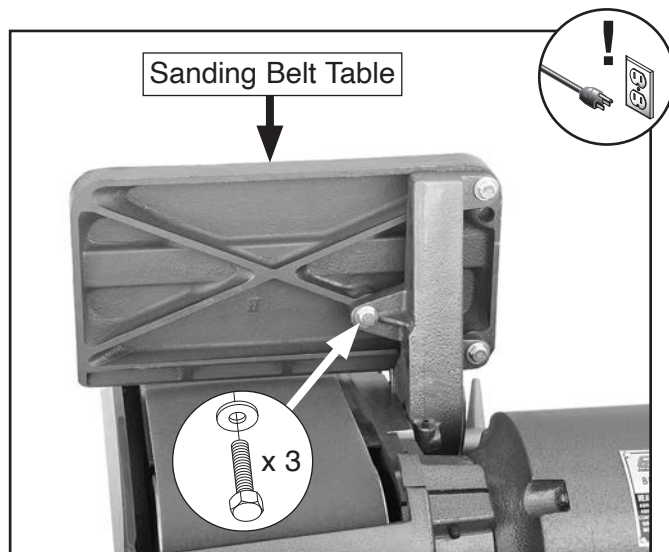

Figure 55. Location of sanding belt table hex bolts and flat washers.
4. Remove (3) hex bolts and flat washers shown in **Figure 55** in order to remove sanding belt table from sanding belt table mount.